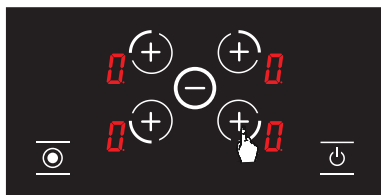

Figure 20
2. Press the front right hob selection key () again. (See Fig. 20)